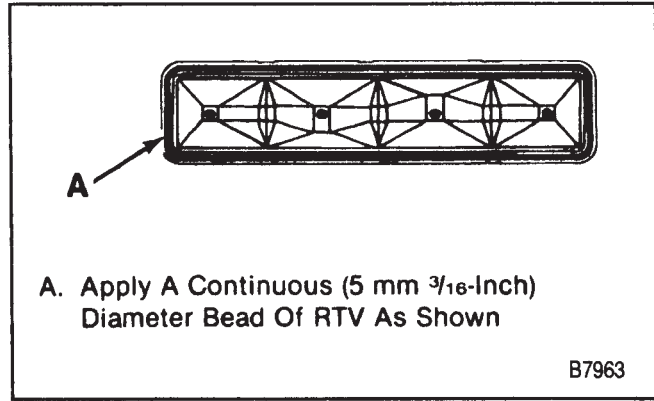

Figure 9—Applying RTV to the Pushrod Cover
- Apply a 5-mm (3/16-inch) bead of RTV sealant to the pushrod cover as shown in figure 9.